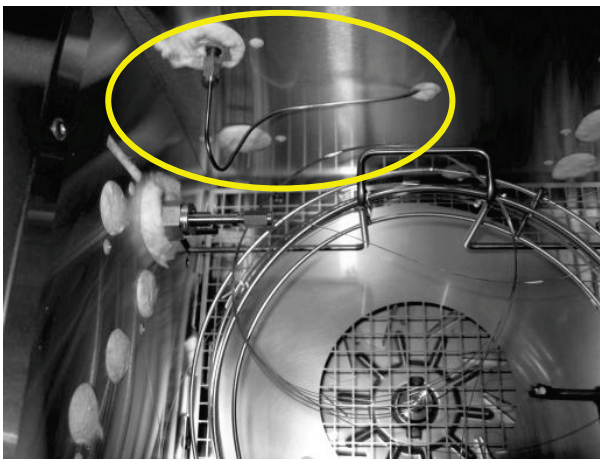

Figure 22 Connecting the carrier gas tubing to the injector outlet (circled)
12. Connect the carrier gas tubing to the outlet of the injector port inside the oven using the nut (P/N 09903392) and ferrule (P/N 09920127) provided with the GSV assembly (Figure 22).